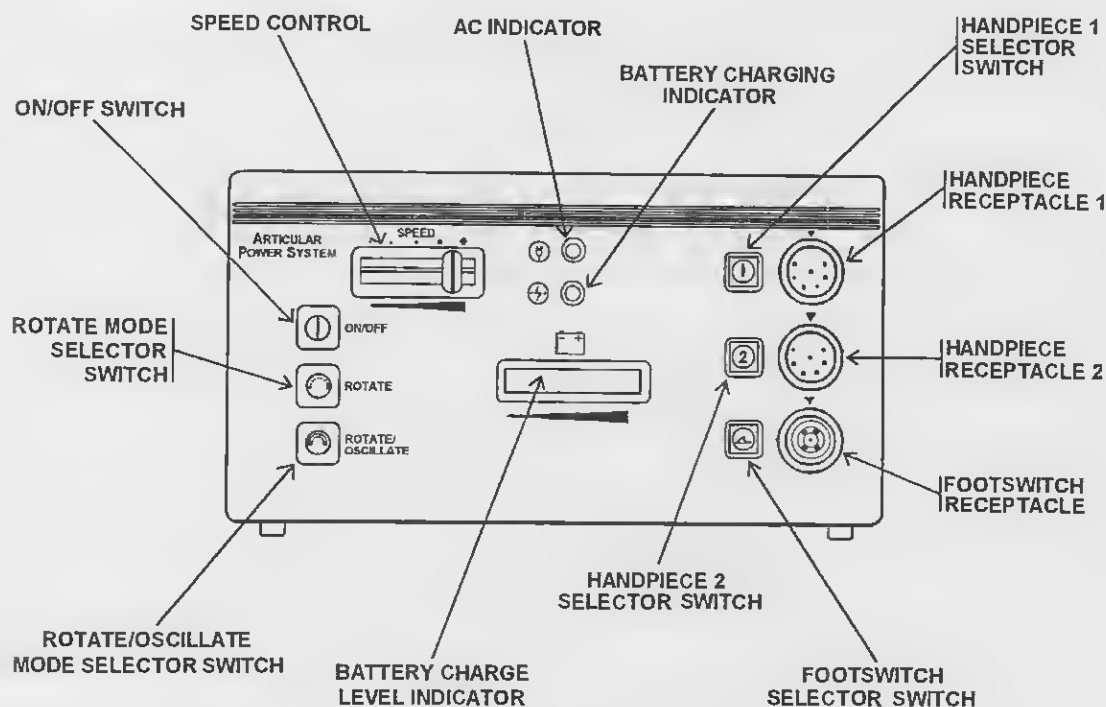

Figure 2-2. APS controls, indicators, and receptacles.
2-4. APS controls, indicators, and receptacles (fig 2-2).
- f. Observe that the handpiece speed is determined by the position of the APS console sliding **SPEED** control switch (fig 2-2). The handpiece speed can be adjusted by sliding the **SPEED** control to the left or to the right. The handpiece speed can be adjusted during operation.
b. Ensure that the **SPEED** control (refer to fig 2-2) is moved to the left position.
c. Depress either the **ROTATE** mode selector switch or the **ROTATE/OSCILLATE** mode selector switch, if illuminated. (Refer to fig 2-2.)